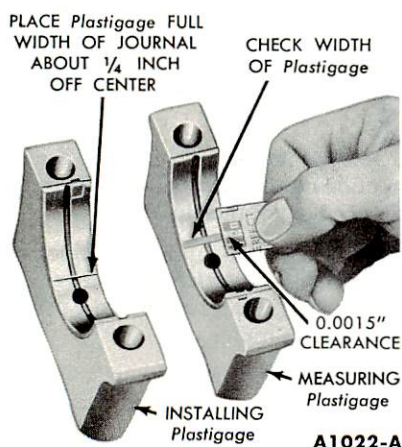

FIG. 26—Installing and Measuring Plastigage—Engine Installed
11. Place a piece of Plastigage on the bearing surface the full width of the bearing cap and about $\frac{1}{4}$ inch off center (Fig. 26).